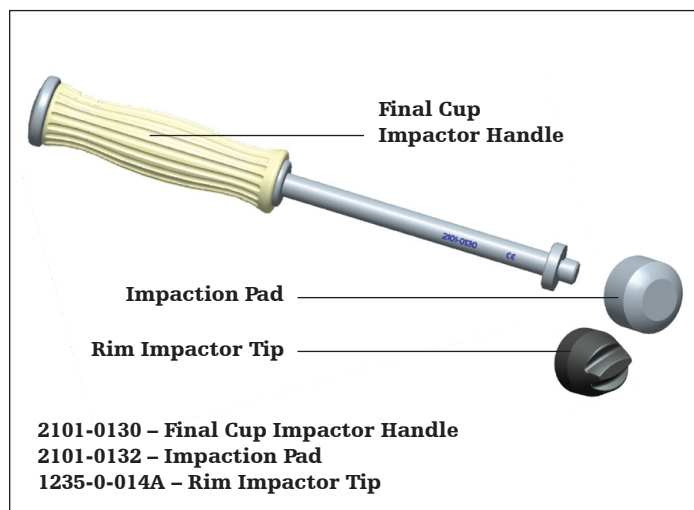

Figure 12
► **Important::** If re-impaction is required, be sure to use the same Expandable Coupler size as the final implant. Do not use a smaller Expandable Coupler size than the final implant as this will compromise the integrity of the coupler, and may cause it to break. When re-impacting the cup, the coupler must be contracted and then fully expanded in the cup prior to re-impaction. For the final option, an Impaction Pad may be used (**Figure 12**). However, care must be taken to protect the inner surface of the cup.
Please note that the Impaction Pad and Rim Impactor Tip need to be assembled onto the Final Cup Impactor Handle. Please unscrew the tip in order to assemble the Rim Impactor Tip or Impaction Pad (**Figure 12**).